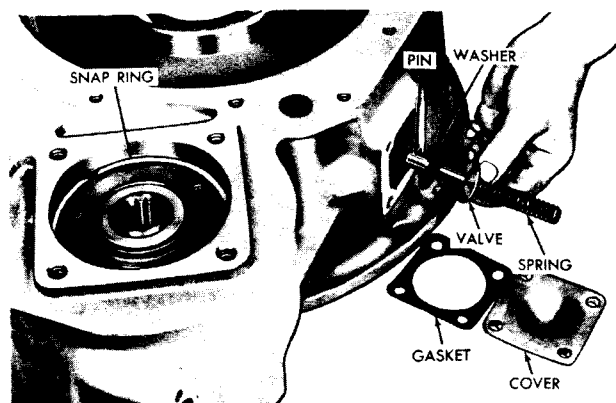

Fig. VI-24. Installing lubrication pressure regulator S2468 components
(15) Remove the grease from the snap ring groove and install snap ring (fig. VI-24).
(16) Install the lubrication regulator valve pin, washer, valve and spring. Install the gasket and cover. Retain the cover with four bolts and lock washers (fig. VI-24).